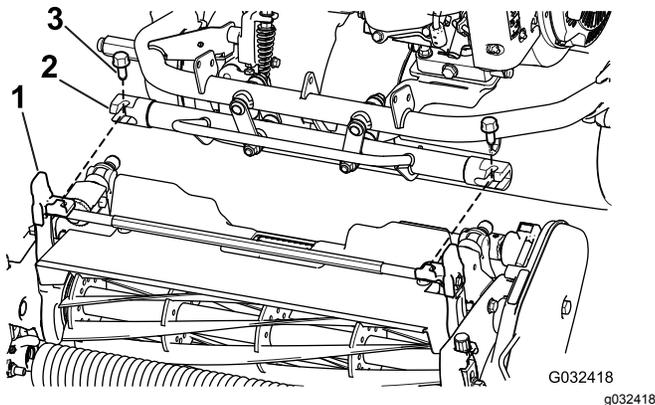

Figure 7
4. Maneuver the machine frame forward until it engages the cutting unit pivot arms Figure 7.
5. Secure the machine frame to the cutting unit pivot arms with the 2 bolts (3/8 x 3/4 inch) (Figure 7).